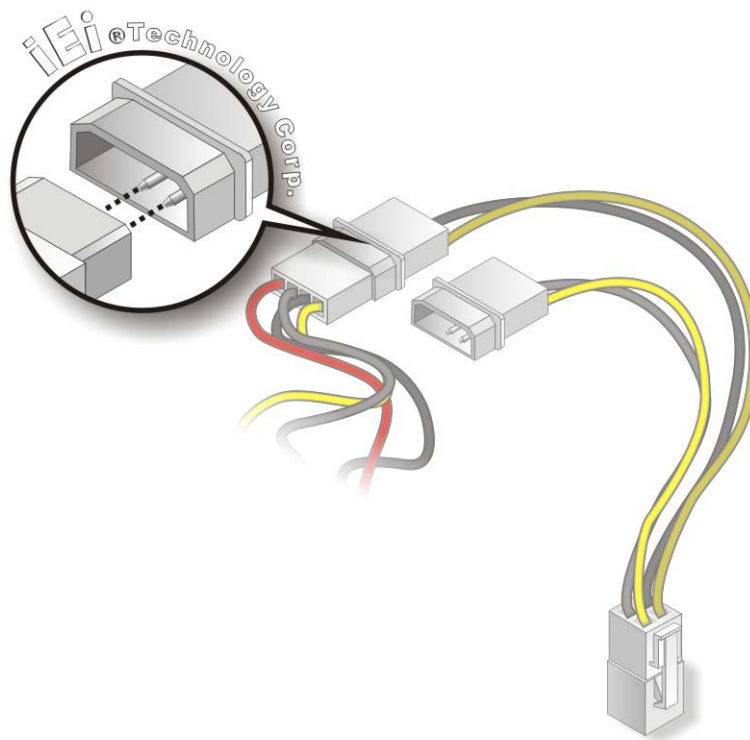

Figure 4-15: Connect Power Cable to Power Supply
Step 2: Align pin 1. Align pin 1 on the on-board connector with pin 1 on the audio kit connector. Pin 1 on the audio kit connector is indicated with a white dot. See Figure 4-15.